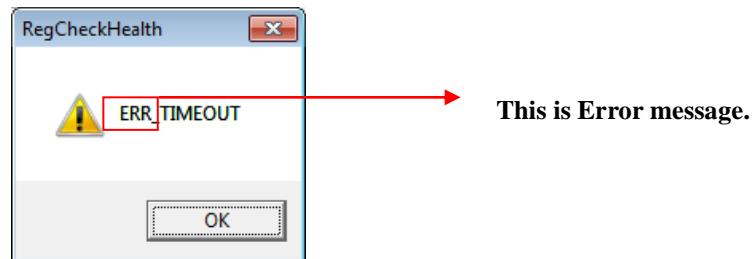

Figure 4-5.
2. When connection is failure the ERR message dialog will be display. See figure 4-5..